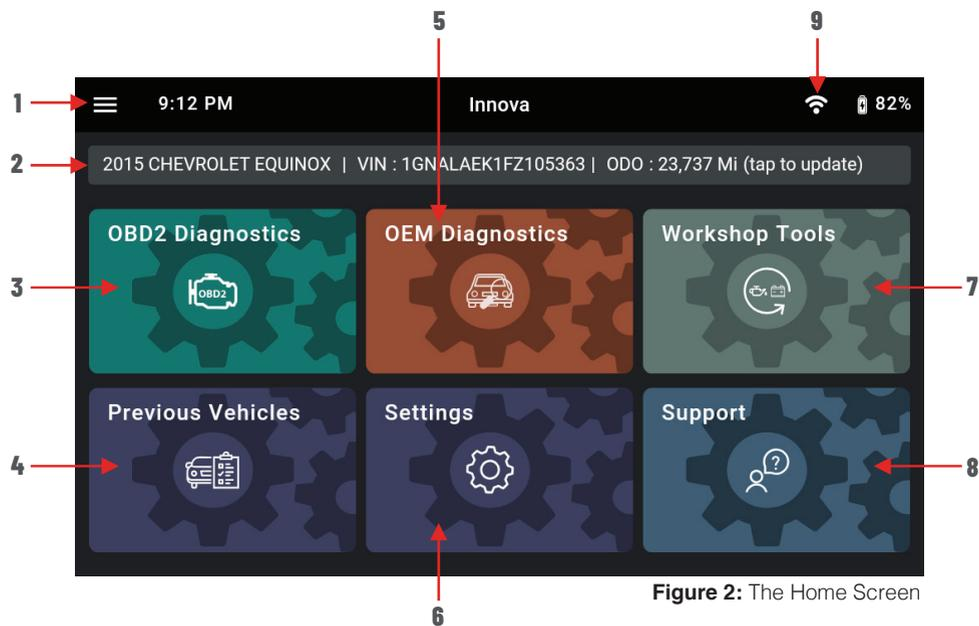

Figure 2: The Home Screen
The Home screen provides access to all the tablet's primary functions. See **Figure 2** for the explanation of items 1 through 9, below.